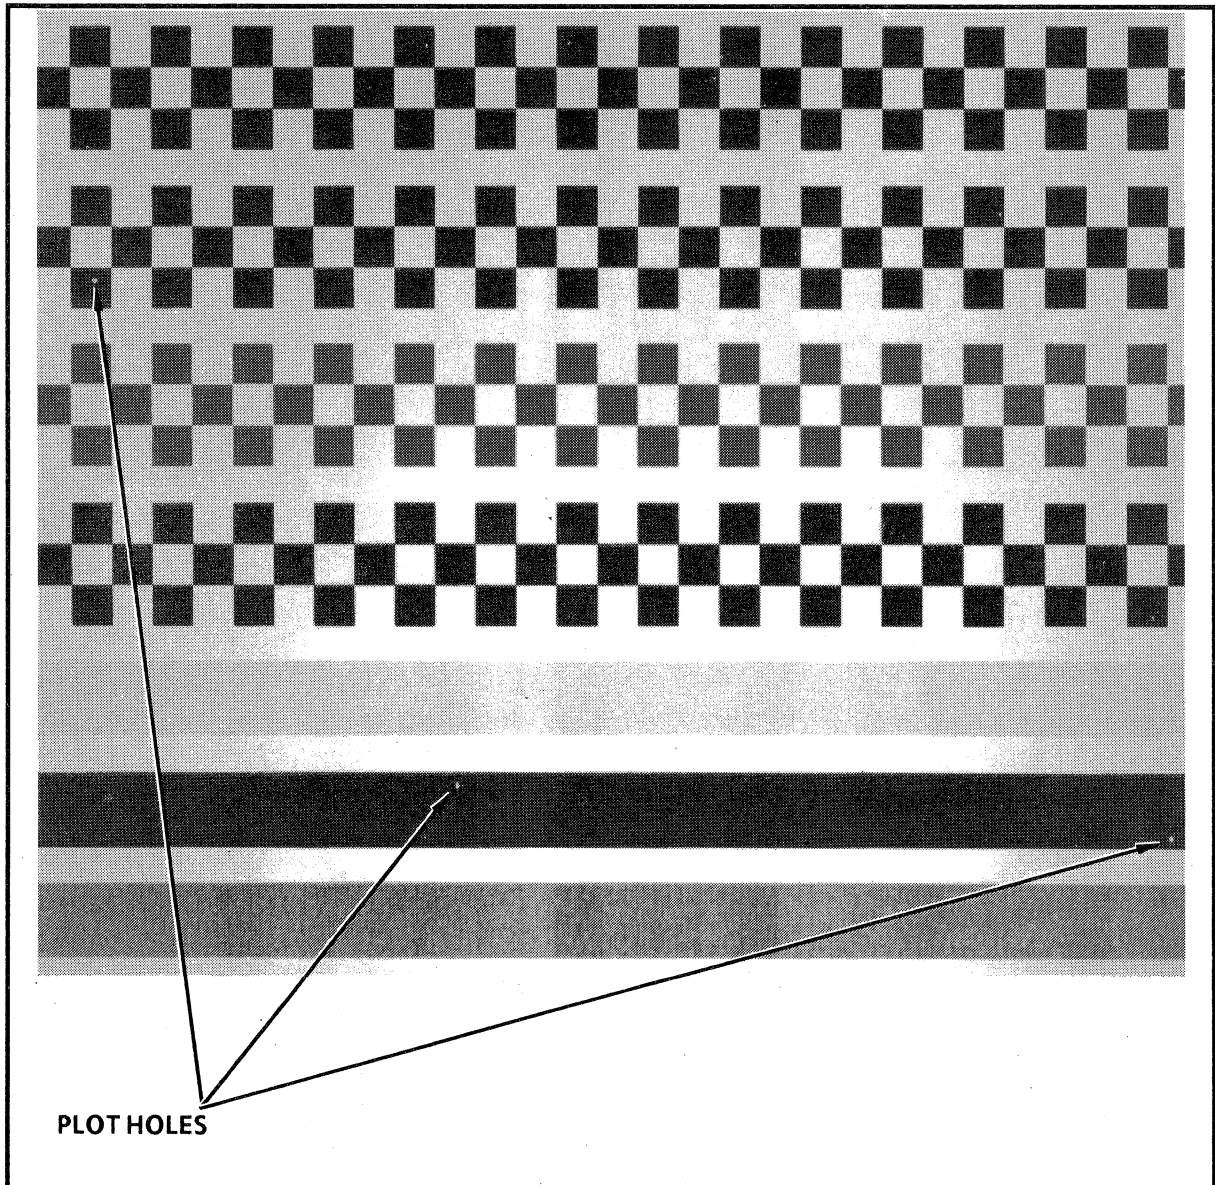

Figure 6-4. Plot Holes
*Plot holes* are small white or incorrectly colored spots on the plot image, as shown in Figure 6-4. This problem may be caused by dust particles trapped between the printhead and the donor roll sheet. To remedy, clean the printhead as described in Section 5, *Periodic Maintenance*. Then, inspect the donor roll and media for dust contamination and clean, if necessary. If the problem persists, replace the ink donor roll as described in Section 3, *Loading the Ink Donor Roll and Media*.